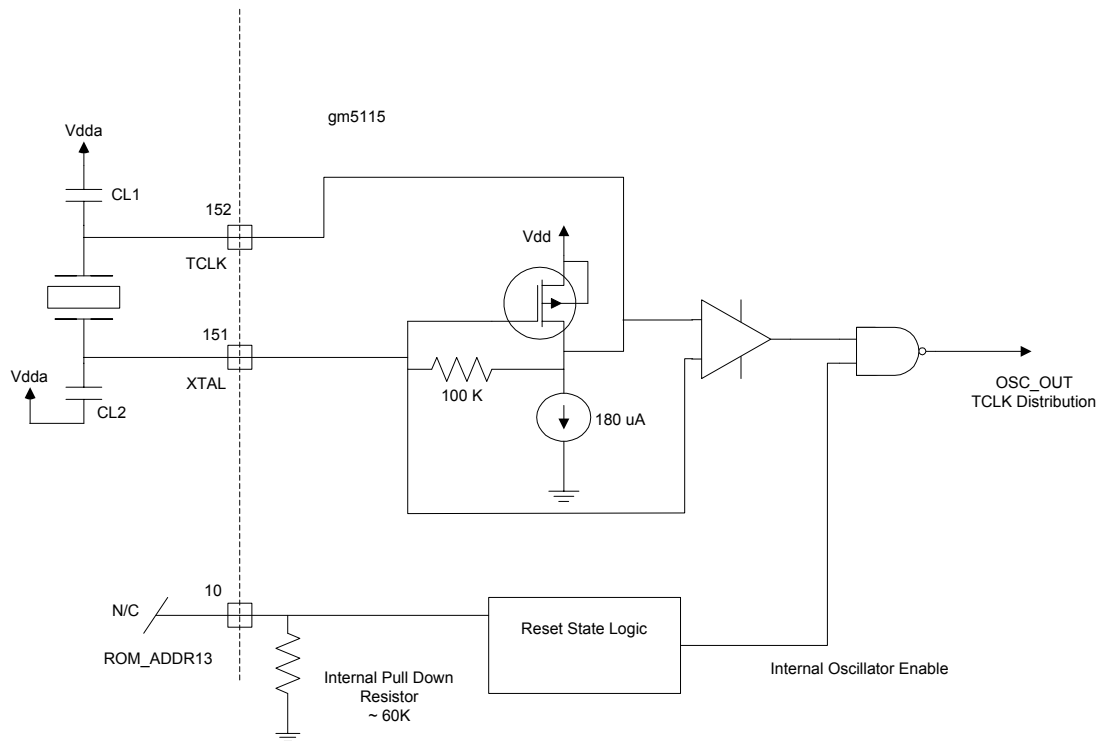
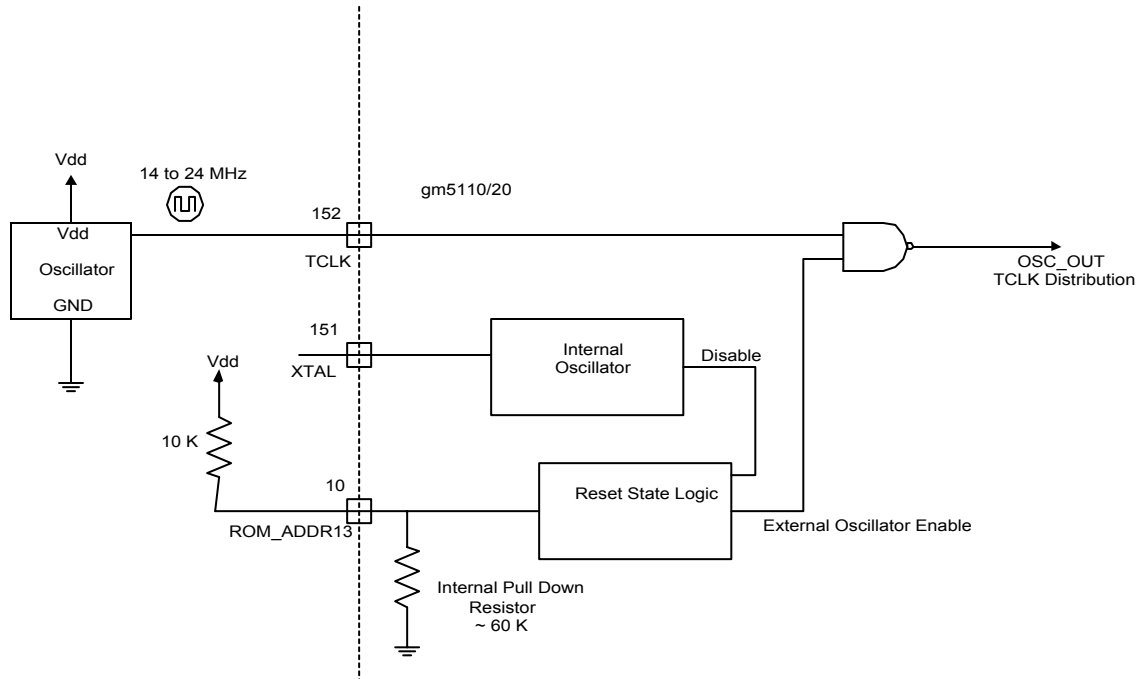

Figure 4. Using the Internal Oscillator with External Crystal
Figure 7. Using an External Single-ended Clock Oscillator
1. Crystal Input Clock (TCLK and XTAL). This is the input pair to an internal crystal oscillator and corresponding logic. A 14.3 MHz TV crystal is recommended. Other crystal frequencies may be used, but require custom programming. This is illustrated in Figure 4 below. Alternatively, a single-ended TTL/CMOS clock oscillator can be driven into the TCLK pin (leave XTAL as N/C in this case). This is illustrated in Figure 7 below. This option is selected by connecting a 10KΩ pull-up to ROM_ADDR13 (refer to Table 18). See also Table 14.
Another option for providing the reference clock is to use a single-ended external clock oscillator. When the gm5110/20 is in reset, the state of the ROM_ADDR13 (pin 10) is sampled. If ROM_ADDR13 is pulled high by connecting to VDD through a pull-up resistor (15KΩ recommended, 15KΩ maximum) then external oscillator mode is enabled. In this mode the internal oscillator circuit is disabled and the external oscillator signal that is connected to the TCLK pin (pin number 152) is routed to an internal clock buffer. This is illustrated in Figure 7.